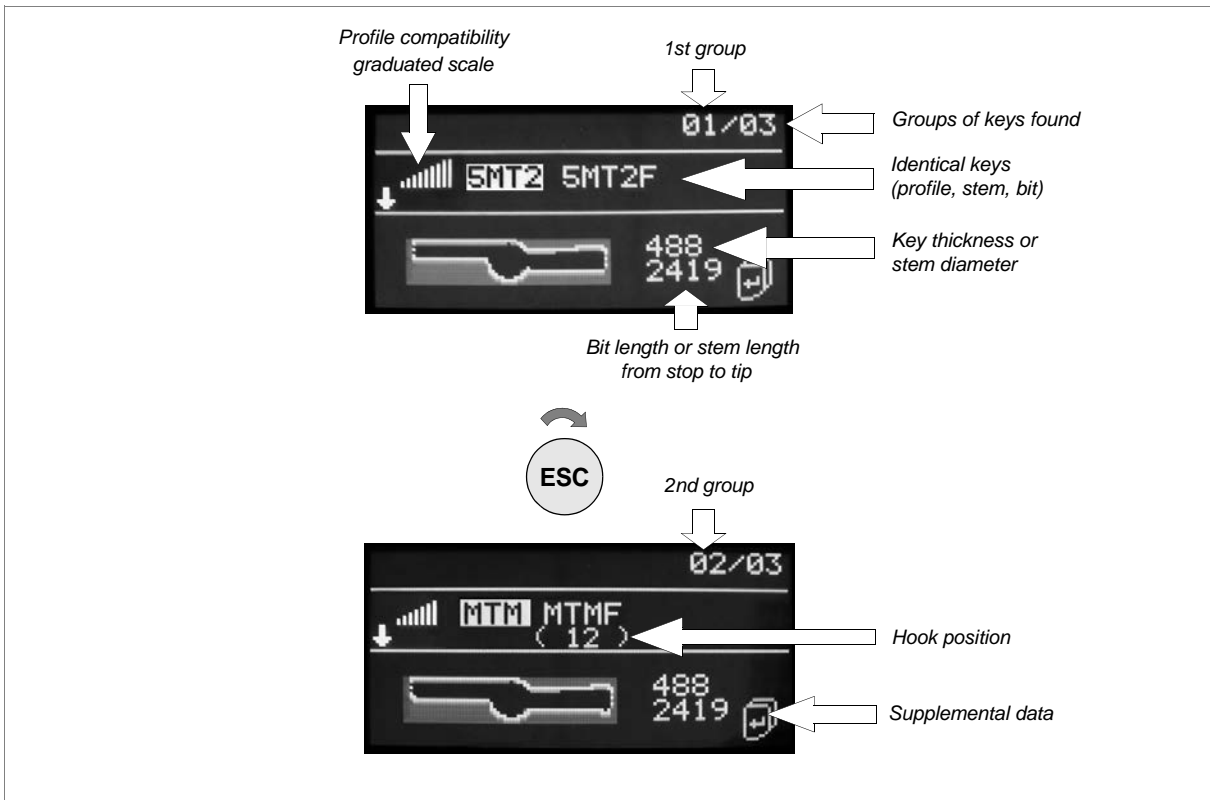

Fig. 26
- Identical keys (same profile and stem length or bit length) will be shown on the same line, separated by a space (fig. 26).
- 01/03 = first group of 3 found (fig. 26)